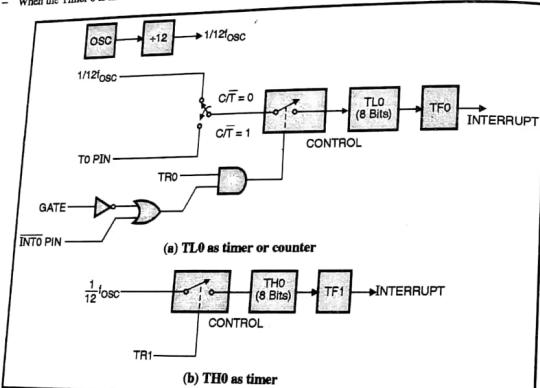

Fig. 3.4.5 : Timer / Counter 0 mode 3
- In mode 3 Timer 1 is not used. Timer 1 therefore simply holds its count. The timer 0 registers TL0 and TH0 are configured as two separate 8 bit counters. Fig. 3.4.5 shows Timer / Counter 0 mode 3.